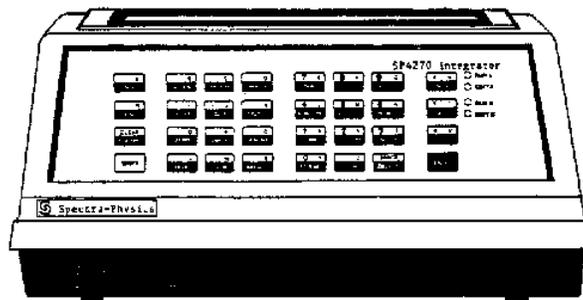

Figure 3. Spectra-physics integrator, Model SP4270
3. Spectra-physics integrator, Model SP4270, Spectra-Physics, Autolab Division, 3333 N. First St., San Jose, CA 95134 (Fig. 3).
The analyst should be aware that the SP4270 uses a 3-function keypad. The lower section of each key initiates a system function, while the upper portion represents numeric/punctuation characters (upper left) and alpha characters (upper right) (see Figs. 3 and 4).